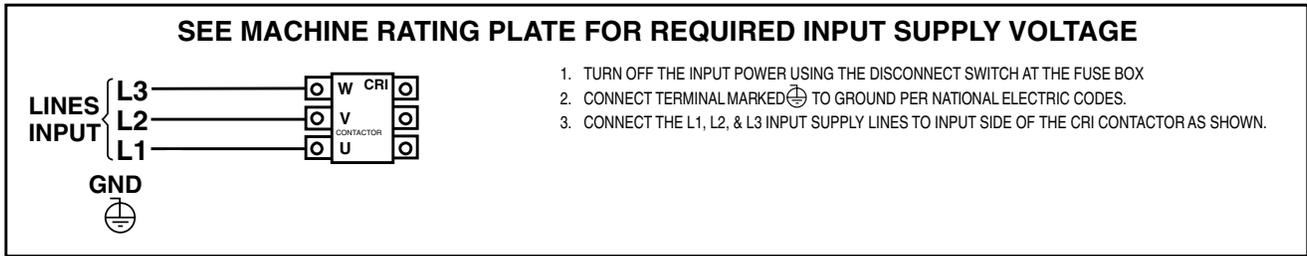

FIGURE A.7-Reconnect Panel Board Positions for Single Voltage Machines
4. For 460 and 440 Single Voltage, see Figure A.7. (S17894)